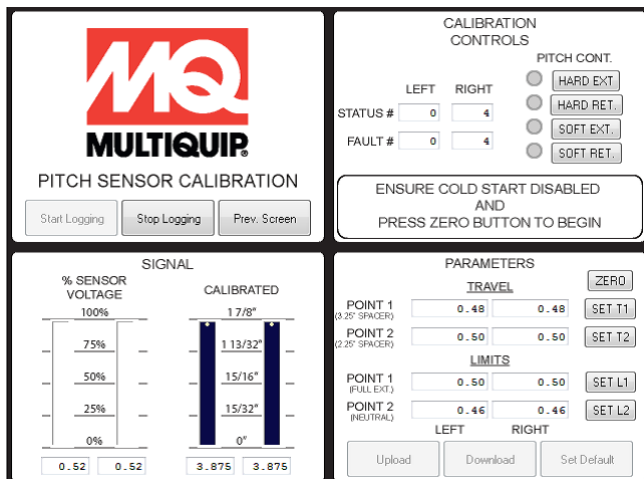

Figure 43. Start Pitch Sensor Calibration
4. Press "zero" button (Figure 43) to begin calibration.
- e. Press "Set T1" button (Figure 43).